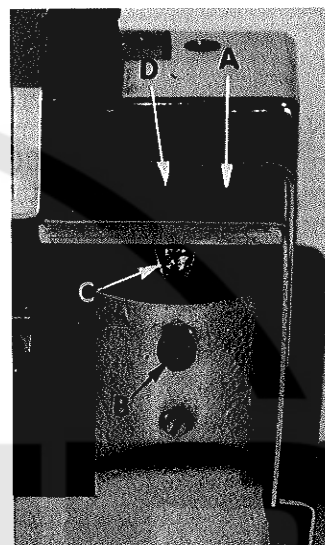

Fig. 17
CAUTION: When removing the cloth plate (A, Fig. 17) loosen the cloth plate studlocking screw (B) and lift up cloth plate with the cloth plate stud (C) and cloth plate screw (D), assembled.